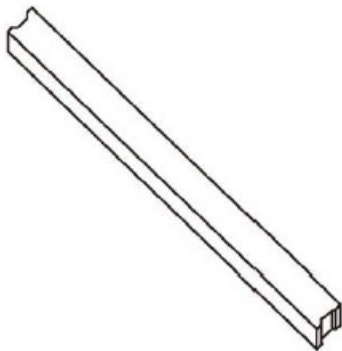

Figure 1 Wood Supporting Frame
- Unloading with a crane: Affix the lifting belt into the wood supporting frame buckle (Fig. 1, 2). It is allowed only to lift one pallet at a time. Before lifting, it is necessary to confirm whether the pallet and paper box are damaged and ensure that the lifting rope is robust and firm. When being lifted close to the ground, the paper box will be gently placed in a relatively flat position on the project site by two people, one on each side.